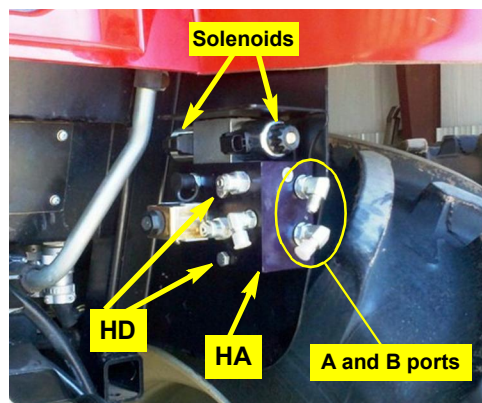

Figure 2b: Steering block installed
- Using hardware **HD**, mount **HA** on the fender plate as follows (Figure 2b):
- b. Using hardware **WJ** install the WAS assembly prepared in step 1 on **WL** (Figure 2b and inset). Mount the assembly:
Figure 2b with inset: WAS assembly installed